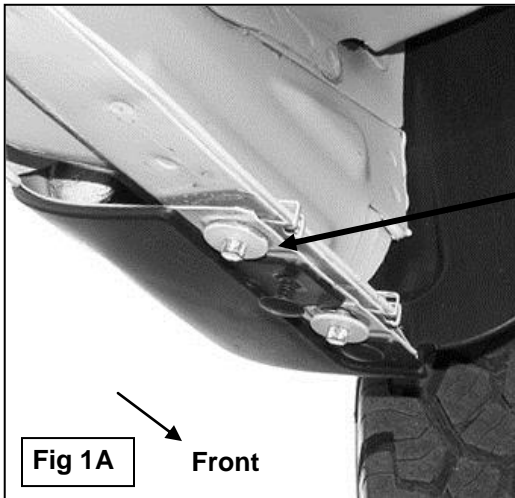

Fig 1A
2. Starting at the front of the driver side of the vehicle, remove the two small hex bolts and the metal clips holding the bottom of the fender to the body, (**Figure 1A**). **NOTE:** Use a small flat screwdriver to spread the clip apart for easy removal. Due to body panel misalignment from the factory, it may be necessary to open these holes slightly with a 3/8" drill bit, (**Figure 1B**).
3. Select the driver side front Mounting Bracket. Line up the (2) holes in the pinch weld with the holes in the front Mounting Bracket. Insert (2) 8mm x 30mm Hex Bolts with (2) 8mm x 24mm